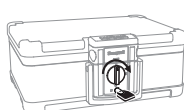

Figure 3.3
3. With key lock in the unlocked position, turn the knob to the right to the unlatched position (Figure 3.3).